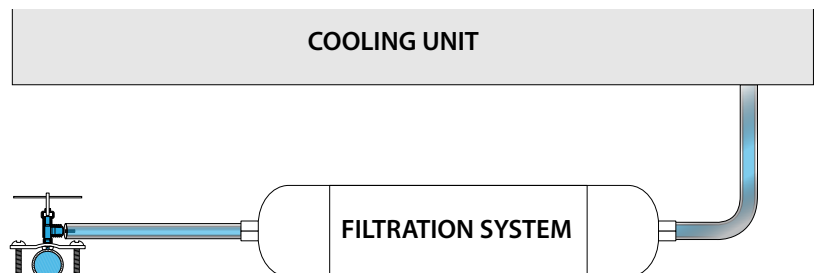

Figure 2
- The water supply should pass through either a water softener or a Filtration system before reaching the unit as shown in Figure 2.